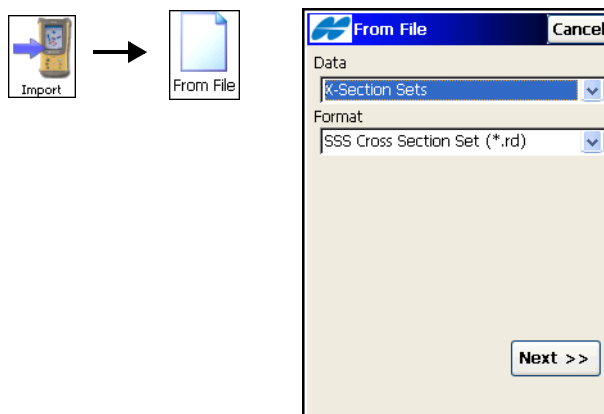

Figure 5-9. From File
1. Tap **Import** ► **From File**. On the *From File* screen select the type of data to be imported, the type of file to be imported from (Figure 5-9). Then tap **Next**.